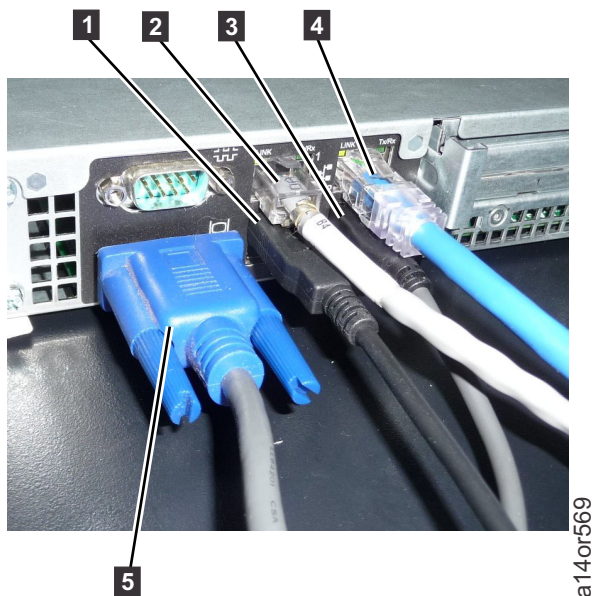

Figure 2-11. Cables Plugged into the TSSC Server
7. See Figure 2-11. The reference keys are as follows: